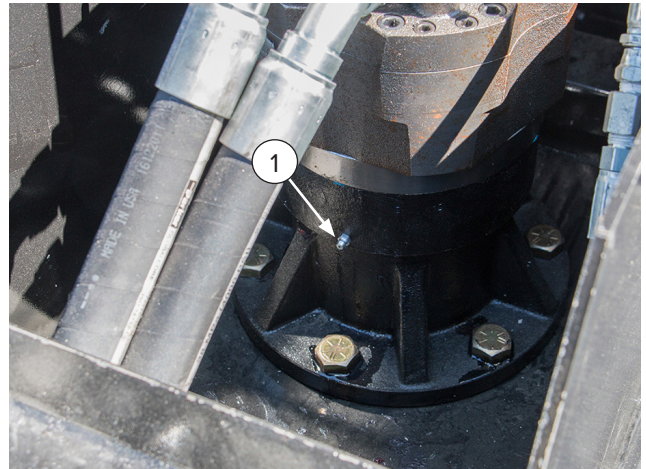

Figure 5
Apply 5 – 10 pumps of grease to the grease zerk (item 1) [Figure 5]. Refer to the Service Schedule on page 17.